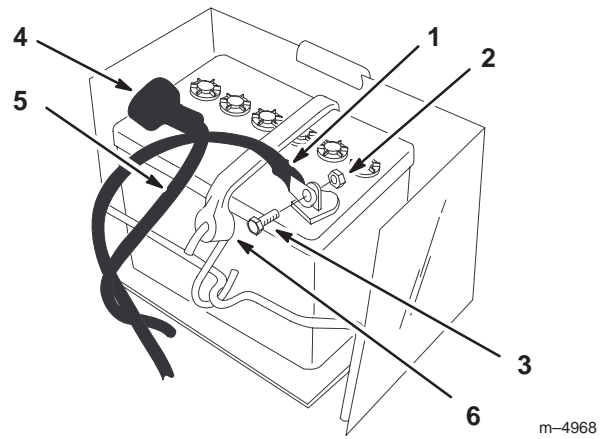

Figure 41
3. Disconnect the negative (black) ground cable from the battery post (Fig. 41).
4. Lift the red rubber cover up on the positive cable. Disconnect the positive cable (red cover) from the battery post (Fig. 41).
5. Remove the battery hold down strap (Fig. 41). Remove battery from the tractor.
1. Install the battery into the tractor (Fig. 41).
2. Secure battery with hold down strap (Fig. 41).
3. Using the bolt and nut, connect the positive (red cover) cable to the positive (+) battery post (Fig. 41). Slide the rubber cover over the battery post.
4. Using the bolt and nut, connect the negative (black) cable to the negative (-) battery post (Fig. 41).